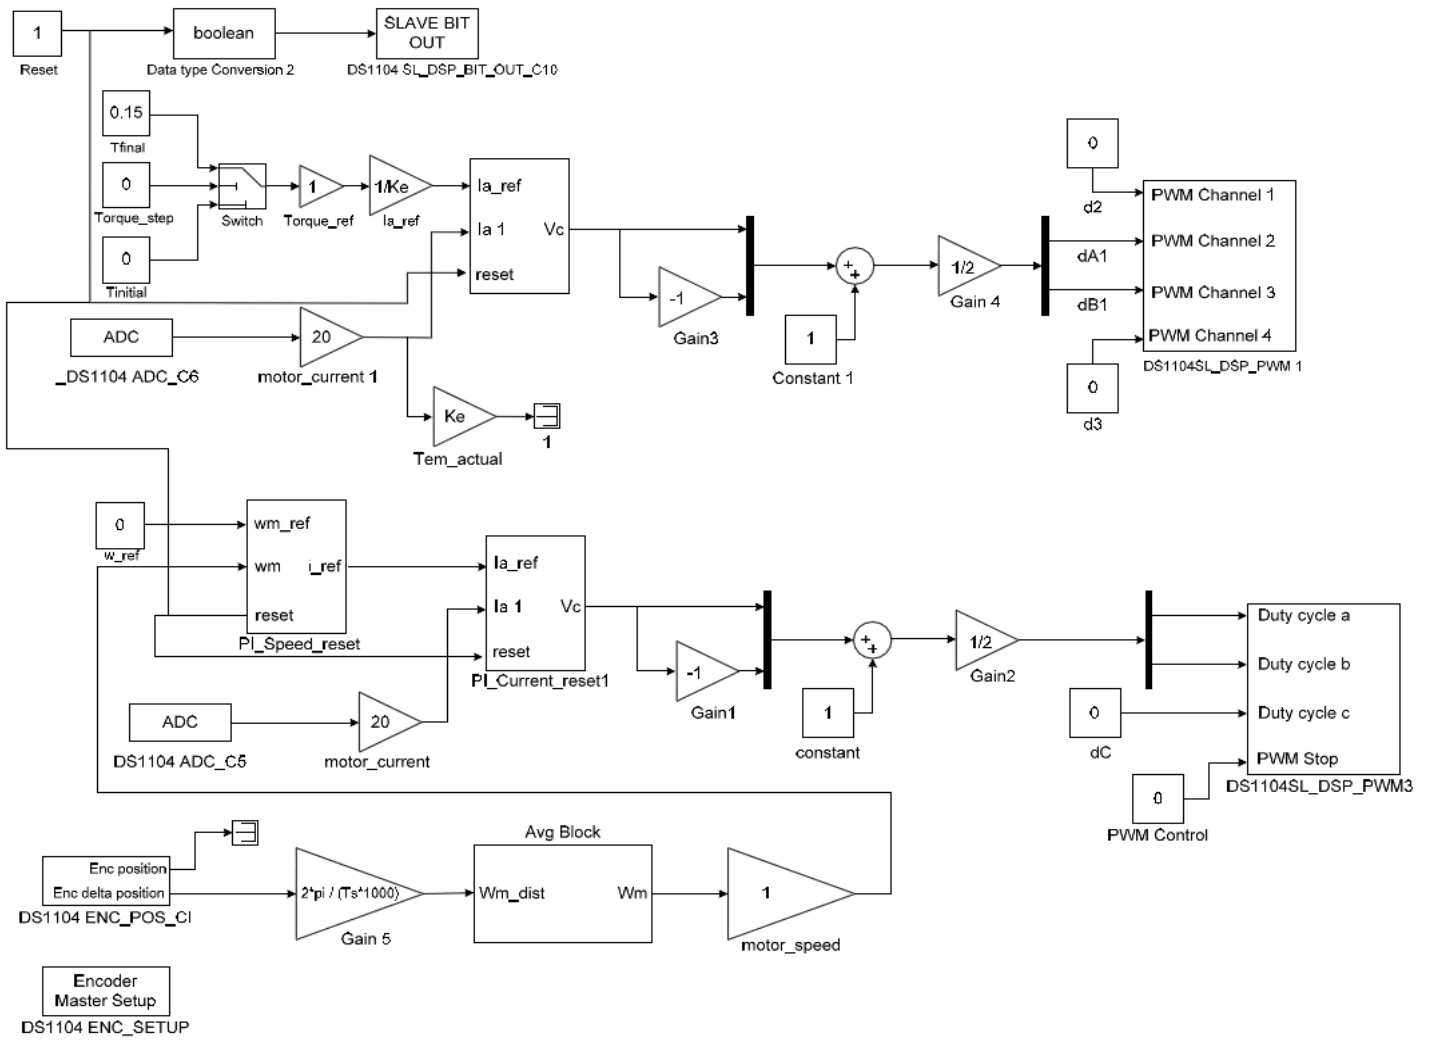

Figure 6.8: Simulink model file for speed controlled DC motor with torque controlled load.
2. Open the file '**torque_control_w_control.mdl**'. Your model should look like Fig.6.8. In this model, inverter 1 controls the motor with speed control and inverter 2 controls the second motor (load) with torque control. Note that these motors are identical. Assign the values to all the PI controllers. (run the m file which contains all values, the values of Kp and Ki are obtained from the previous experiment).